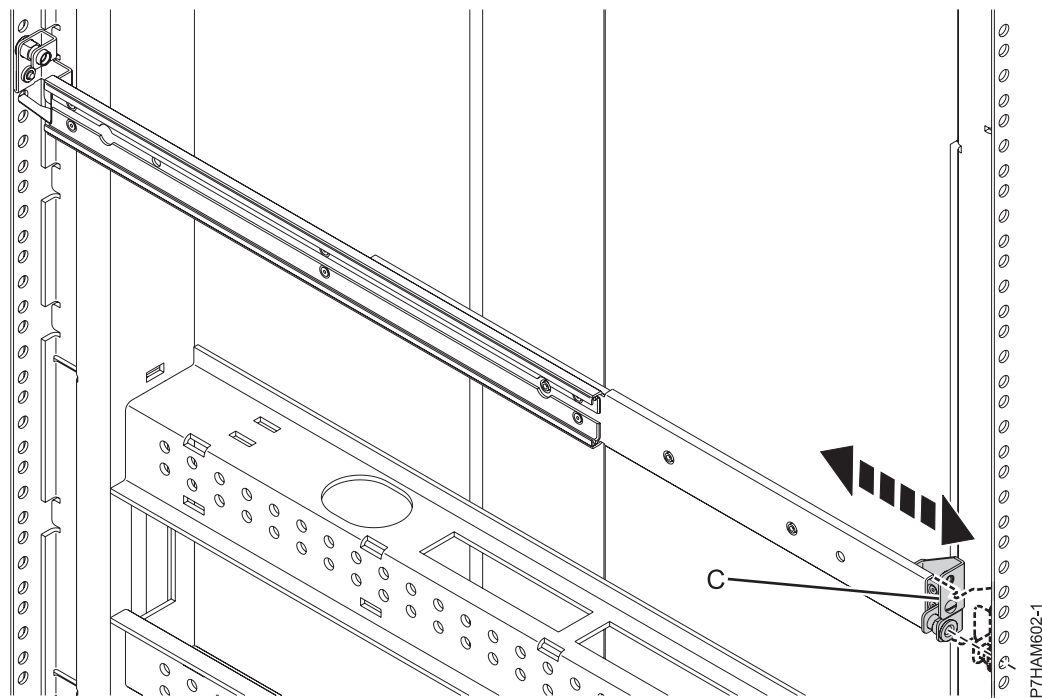

Figure 5. Expanding the rail to the rear of the rack
- d. At the rear of the rack, locate the two marks that you made previously on the EIA strips. Compress the rail (C) as shown in Figure 5, and then expand the rail carefully toward the marks until the rail end meets the rear rack flange.